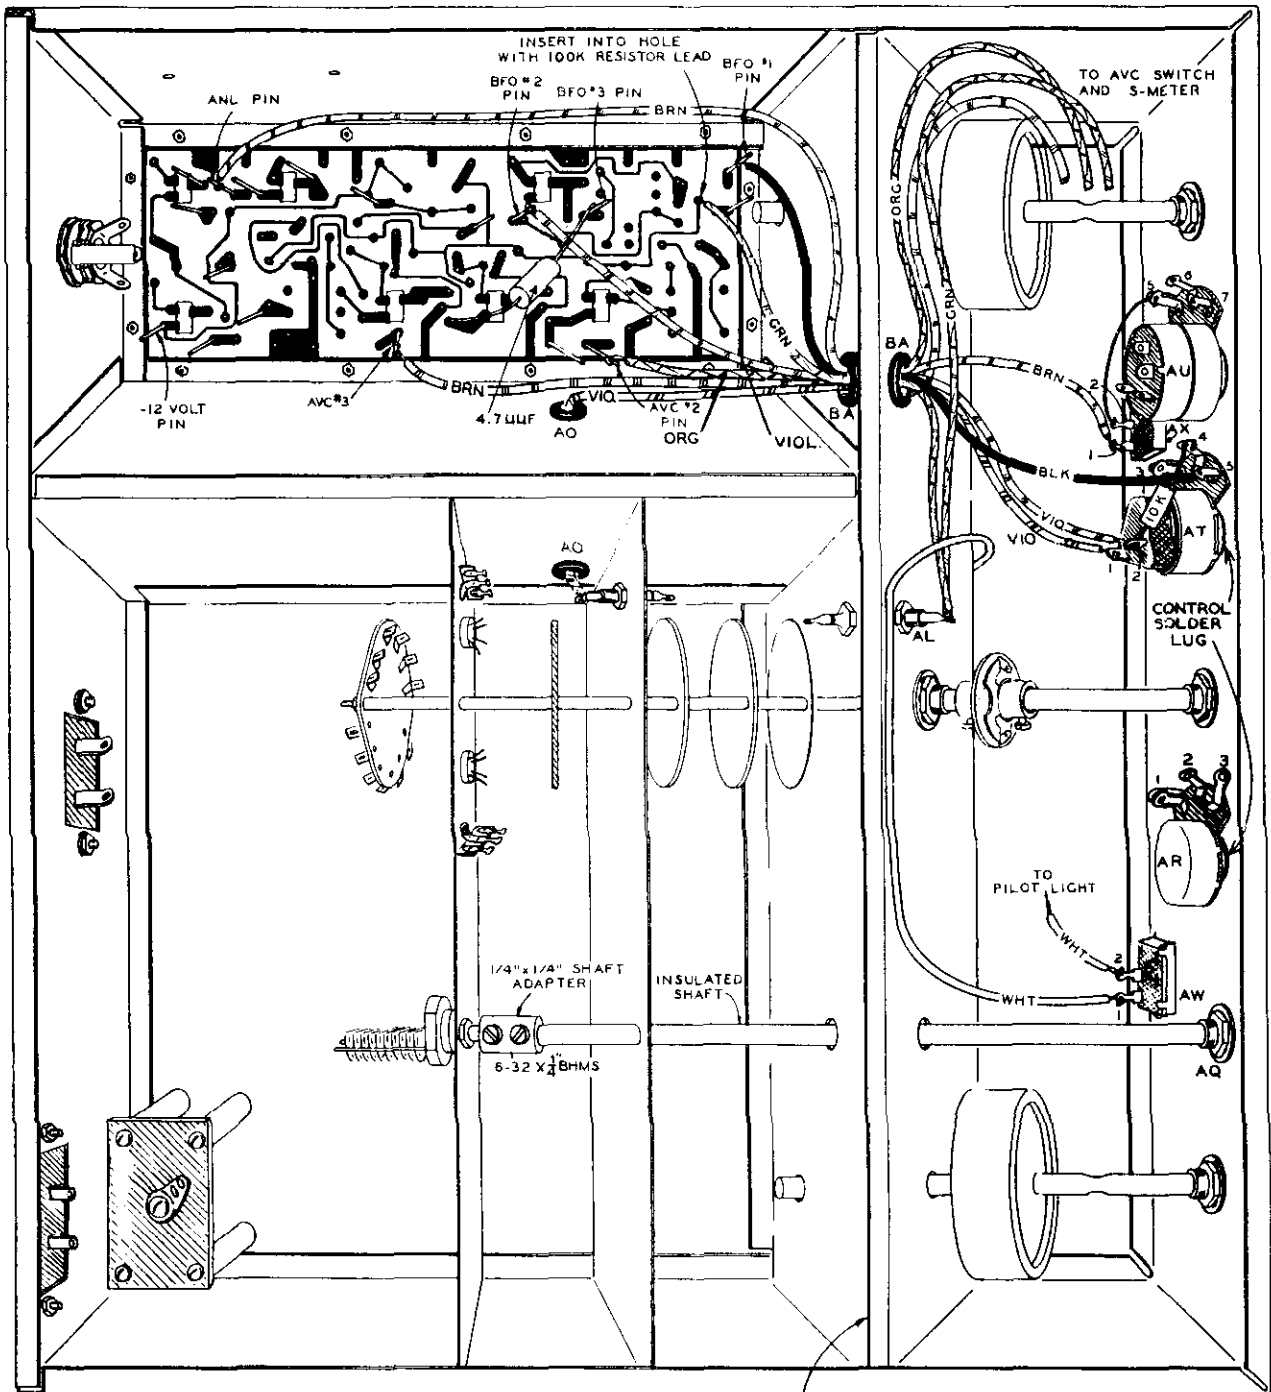

Figure 22
- (✓) Mount the phone jack AF. Insert the phone jack with a control lockwasher on the bushing, through the chassis from the inside. Secure with a 3/8" control nut. See Figure 22.
(✓) See Figure 22 and start two 6-32 x 1/4" BHMS into the 1/4" x 1/4" rigid shaft coupling. Place a shaft adaptor on the antenna tuning capacitor. Slide the 1/4" x 1/4" shaft coupling on the antenna capacitor shaft and tighten.
(✓) Locate the 1/4" to 1/4" flexible coupler and slide the coupler onto the band switch shaft until the end of the shaft is approximately at the center of the coupler. Secure the two screws holding the coupler to the shaft. See Figure 22.
Refer to Figure 22 for the following steps.
- (N) Cut both leads of a 10 K $\Omega$  resistor (R48, brown-black-orange) to 3/4" in length. Connect one lead to lug 4 of the BFO control AT (S-1). Connect the other lead to lug 2 of the BFO switch AT (NS).
- (N) Connect one end of a 7" length of violet hookup wire to lug 2 of the BFO switch AT (S-2). Run the other end of this wire through grommet BA and connect to the BFO terminal pin 2 (S-1).
- (N) Connect one end of a 5" length of black wire to lug 5 of BFO control AT (S-1). Run the other end through grommet BA and connect to BFO terminal pin 1 (S-1).
- (V) Cut both leads of a 4.7  $\mu$ mf capacitor C60 to a 1" length. Connect one lead to BFO terminal pin 3 (S-1). Connect the other end to the #404-40 transfilter terminal that is circuit board connected to the collector of X5 (S-1). See Figures 22 and 24.
- (V) Connect one end of a 3" length of bare wire to lug 2 of ANL switch AX (S-1). Connect the other end of this lead to lug 5 of the VOLUME control AU (NS).
- (V) Bend the control solder lug until it touches lug 5 of AU and solder the two lugs and bare wire.
- (V) Connect one end of a 13" length of brown wire to lug 1 of ANL switch AX (S-1). Run the other end through grommet BA and connect to the ANL terminal pin (S-1). Position wire as shown.
- (V) Connect one end of a 9" length of orange wire to the AVC terminal pin 2 (S-1). Run the other end of this lead through grommet BA and up toward the AVC switch. This end will be connected later.
- (V) Connect one end of a 12" length of brown wire to AVC terminal pin 3 (S-1). Run the other end through grommet BA and up toward the AVC switch and S-meter.